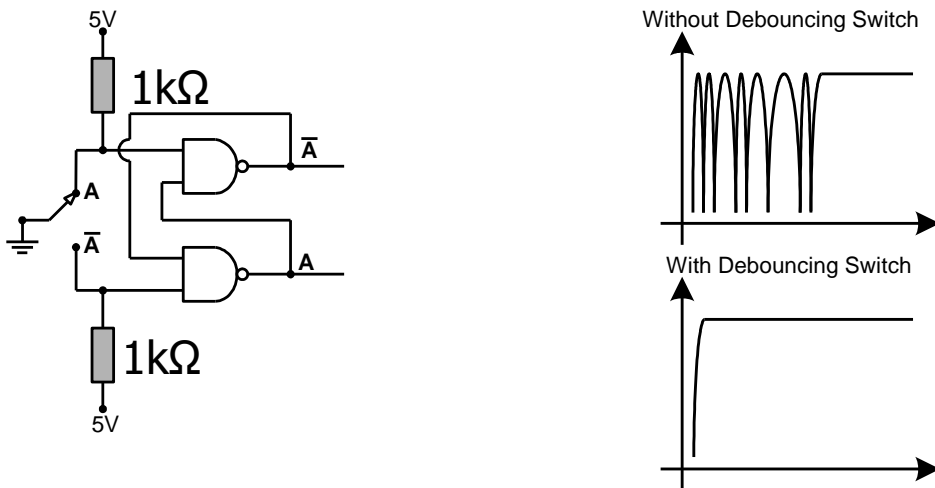

Figure 7-1. The schematic of a debouncing circuit and signals that can be observed with and without a debouncer.
- When you use switches like push buttons you face the bouncing problem due to the mechanical contact. The input signal produced by a switch is shown below. The circuit may be triggered many times although triggering only once is intended. The debouncing circuit shown in Figure 7-1 is a practical solution to this problem. Explain the operation of this circuit.